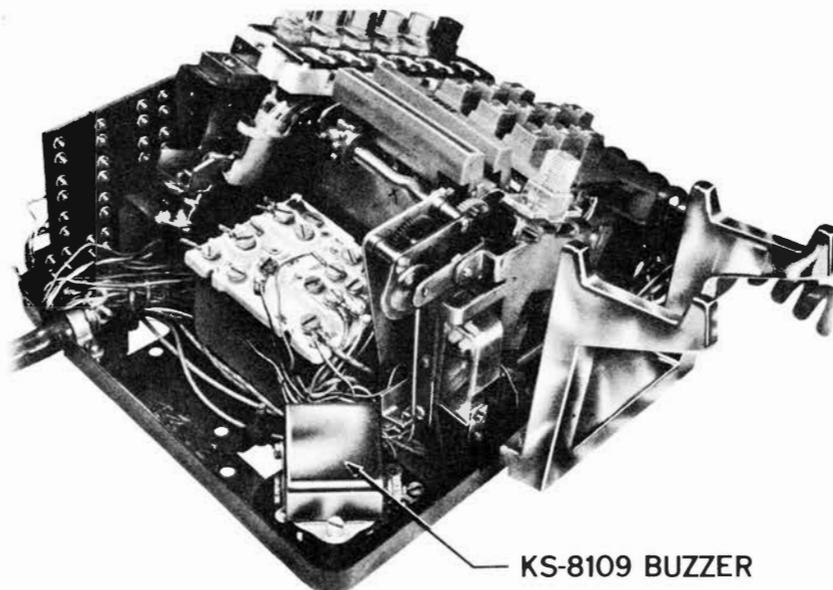

Fig. 4 — Location of KS-8109 Buzzer
- (1) Remove nylon screws and fiber washers from left rear of set.
- (2) Fasten buzzer to base of telephone set (Fig. 4) with nylon screws, placing the fiber washers between buzzer and base. This insulates buzzer from telephone set.